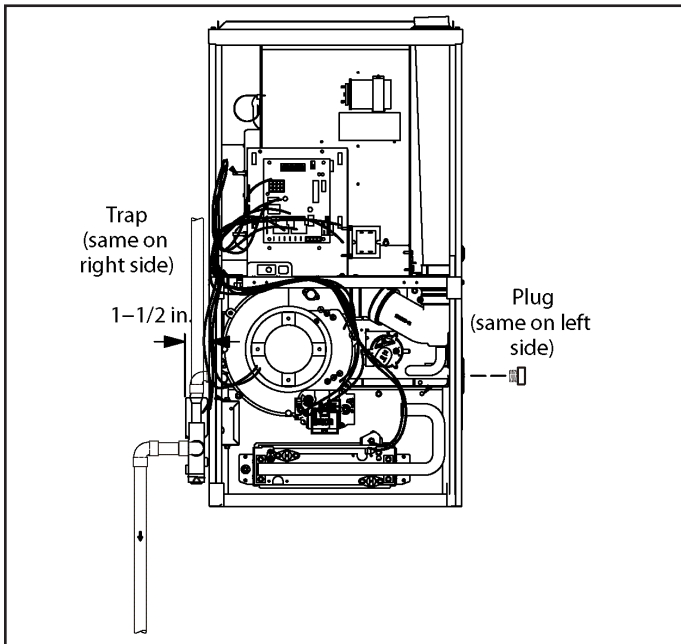
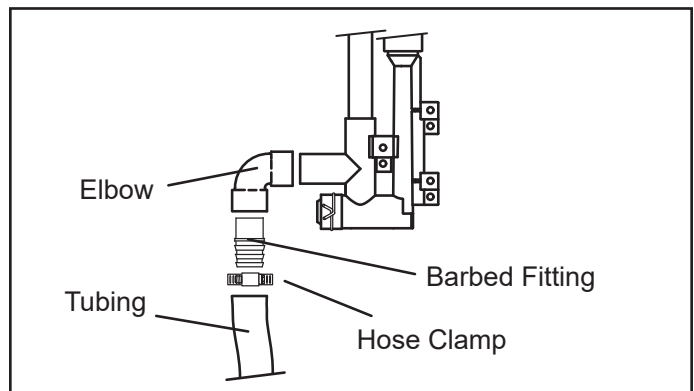

Figure 36. Condensate Trap and Plug Locations
Figure 35. Field-Provided Drain Components
This unit is designed for either right- or left-side exit of condensate piping. Refer to Figure 35 and Figure 36 for condensate trap locations. Figure 41 and Figure 42 show trap assembly using 1/2" PVC or 3/4" PVC.
1. Use a large flat head screw driver or a 1/2" drive socket extension and remove plug (Figure 35) from the cold end header box at the appropriate location on the side of the unit. Install provided 3/4 NPT street elbow fitting into cold end header box. Use Teflon tape or appropriate pipe dope.